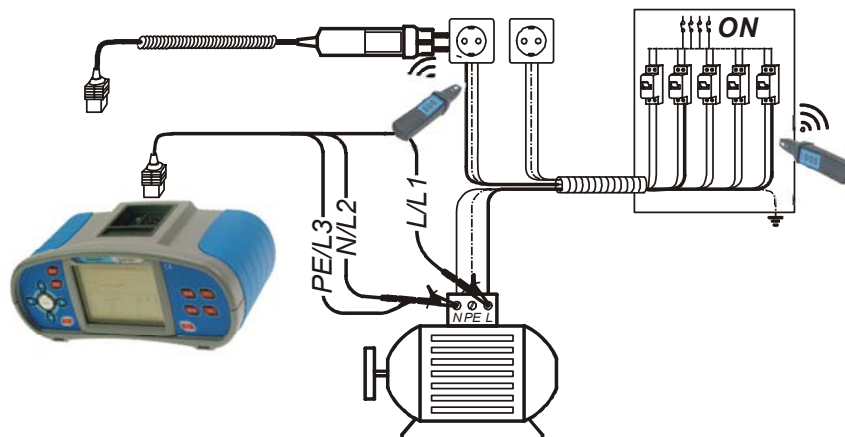

Figure 5.57: Tracing wires under walls and in cabinets
- ❑ **Connect** test leads to the tested object (see *figures 5.57 and 5.58*).